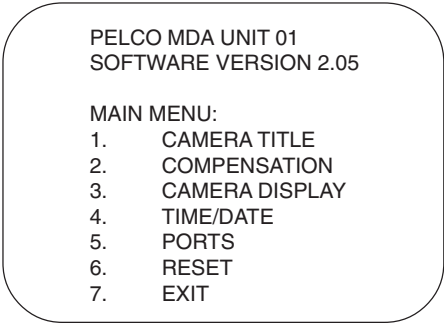

Figure 9. Main Menu
15. Access the main programming menu by moving the joystick in any direction (see Figure 9, Main Menu). You can now begin programming.
1. Access the main programming menu by moving the joystick in any direction (KBD300A) or by pressing any pan/tilt key (KBD200A) (see Figure 9, Main Menu). You can now begin programming.
The fields in the Main Menu (Figure 9) are defined as follows: